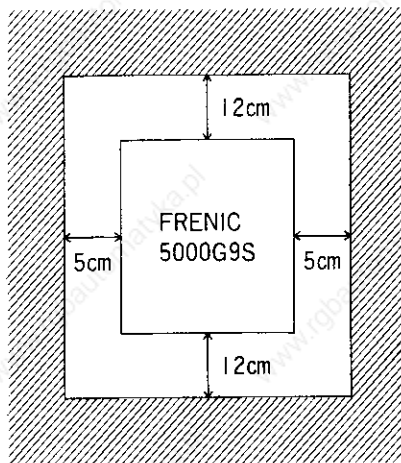

Fig. 5-2-1 Installation direction & mounting space
- ① Place the inverter vertically so that the "FRENIC5000G9S" or the "FRENIC5000P9S" letters can be seen at the front, and then bolt it firmly to a steady structure.
- ② The inverter will generate heat during operation. Allow sufficient space around the unit as shown in Fig. 5-2-1 to ensure adequate ventilation.